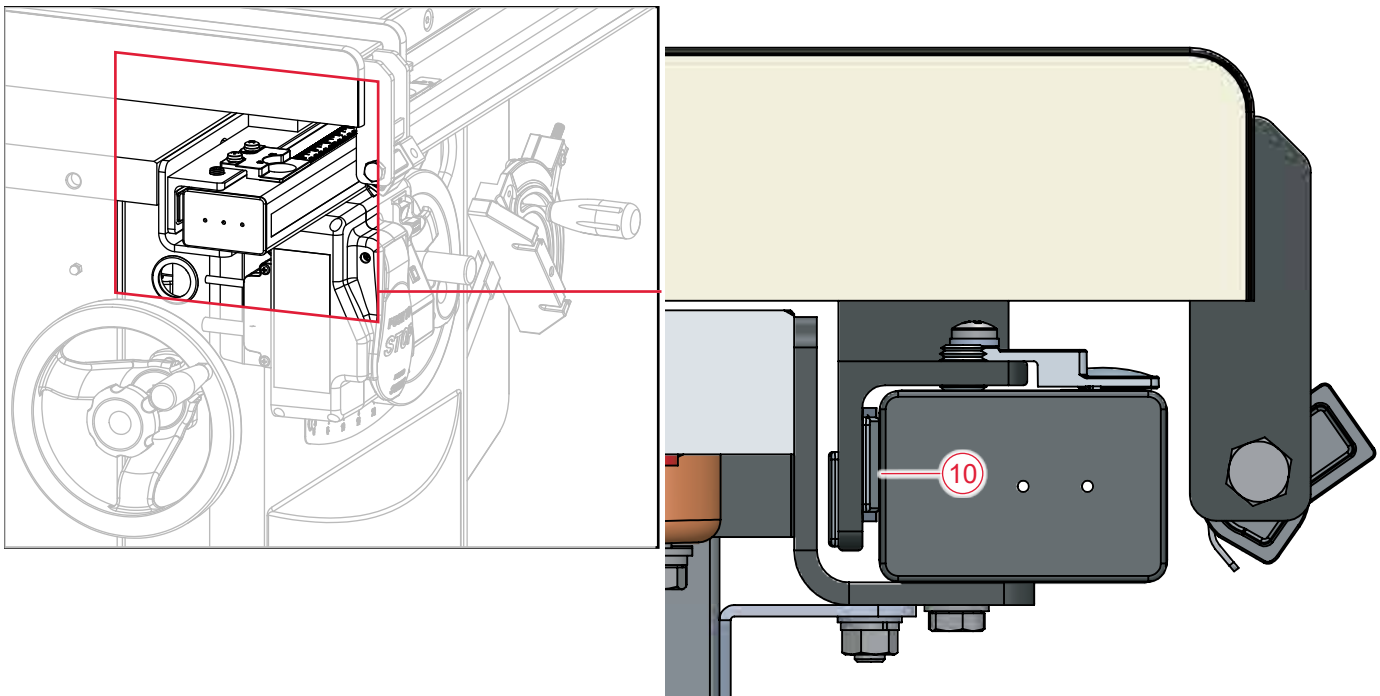

Fig. 24
The holes in the bottom of the front rail are oversized to allow the position of the tube on the rail to be adjusted. To set the tube in the correct position, pull the tube away from the cast-iron table as far as possible. Next, place the fence on the tube with the fence glide bracket resting on the upper rear edge of the tube. Position the fence so that it is near the left end of the tube and the front glide plates (10) are in contact with the rear surface of the main tube (Fig. 24).